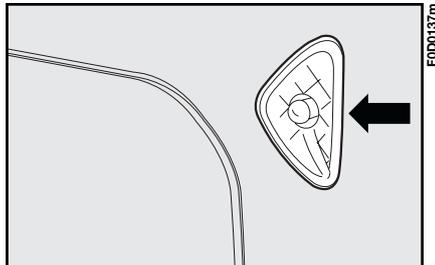

fig. 18
- 1) Press the lens in the direction shown **fig. 18**